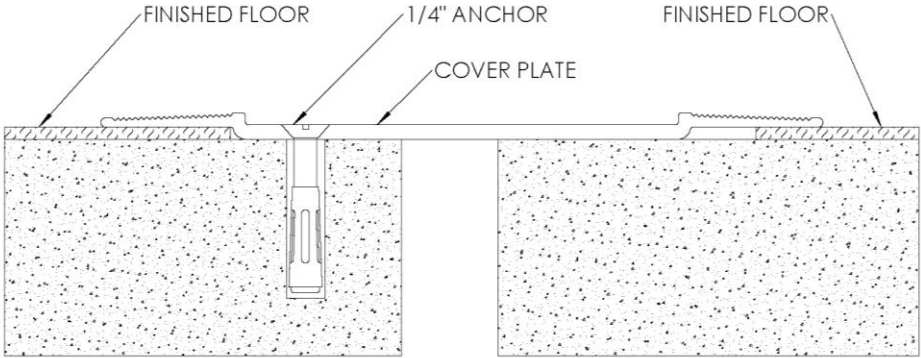

FIGURE 3
- 3. Position the cover plate into position and attach with the supplied 1/4" anchors through the previously drilled holes. The wing on the cover plate should overlap the finished floor on the non-anchored side by 5/8" and the flooring should butt against the offset on the anchored side. **See Figure 3.**